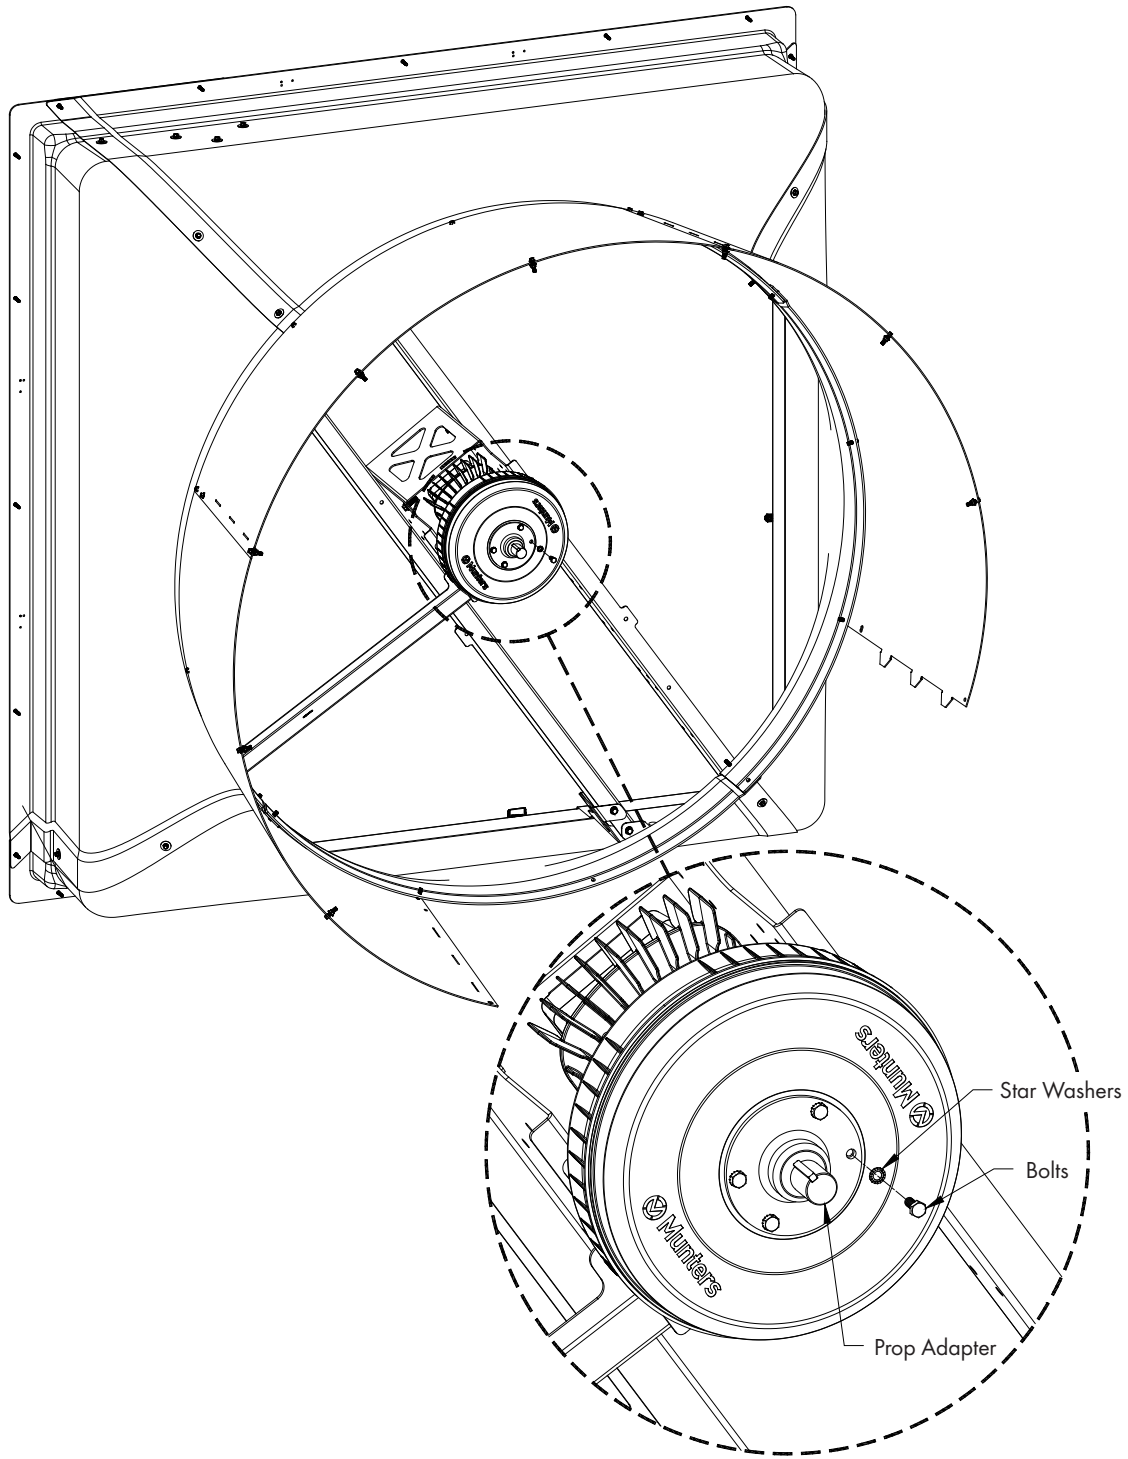

Figure 5
Remove the (4) Bolts and Star Washers holding the Prop Adapter to the Motor. Save the Prop Adapter for reuse later, but discard the existing bolts and washers. See Figure 5.